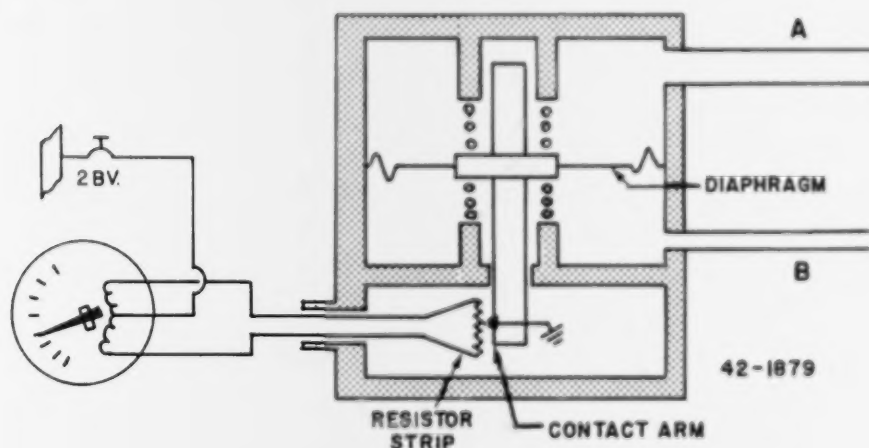

Figure 3-8. Differential pressure indicating system.
maintenance problems. A simple electrical differential pressure indicating system is shown in figure 3-8. It consists of two basic units, the transducer and the indicator. Its theory of operation is used on all the differential pressure indicating systems in use today.
Transducer. Generally speaking, a transducer is any device which changes one type of signal to another. Figure 3-8 shows a simplified schematic of one type of transducer. Notice that it has two ports with a diaphragm between them. Mechanically attached to the diaphragm is a contact arm that will move up or down on a resistance strip (resistor). This resistance strip will send an electrical signal to an indicator.
2. The transducer in figure 3-8 measures _____ in pressure.